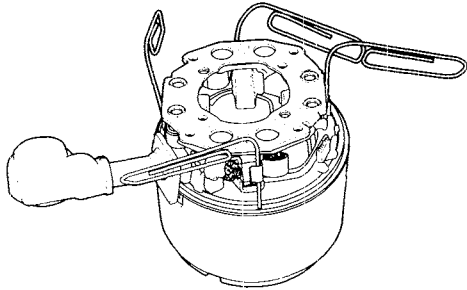

Figure 7-24. Install Paper Clips to Hold Brush Springs
2. Retract all four brushes for armature installation. For good results, obtain four paper clips. Bend free end of each paper clip outward approximately 90 degrees. Then, pushing on inboard side of brush, insert straight end of paper clip between outboard side of brush and inboard side of brush spring. Properly installed, the paper clip contacts the framework of the brush holder to keep spring pressure off the brush. Repeat step on remaining three brushes as shown in Figure 7-24.